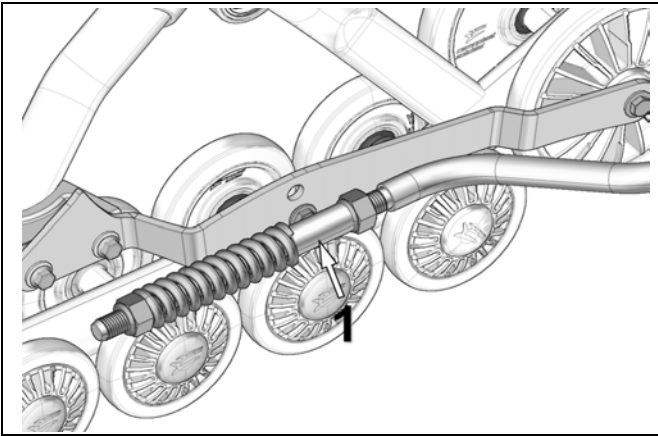
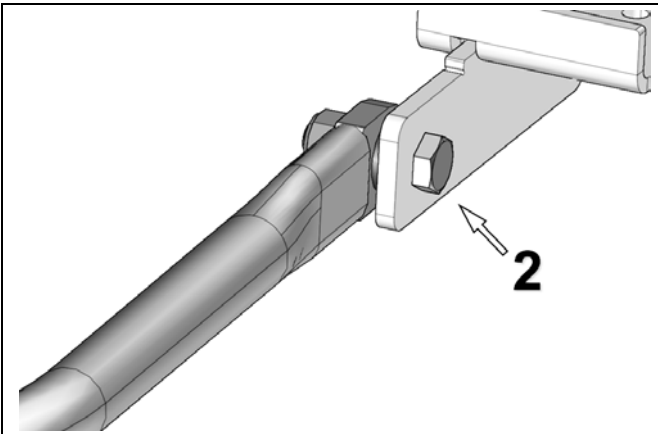

Figure 6
Figure 7
- Stabilizing arm must be attached to Track System (1) and to rear anchor bracket (2) installed on vehicle. See Figure 6 et la Figure 7.